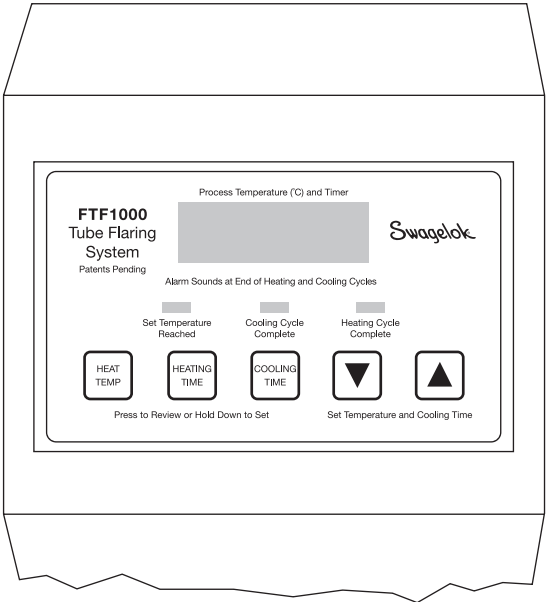

Fig. 3
- 6. Set the heat temperature, heating time, and cool down time by pressing and holding down the appropriate button on the control panel, “HEAT TEMP”, “HEATING TIME” or “COOLING TIME”. Use the arrow buttons to reach the desired setting according to the guidelines in Table 1 for the selected tubing. See Fig. 3.